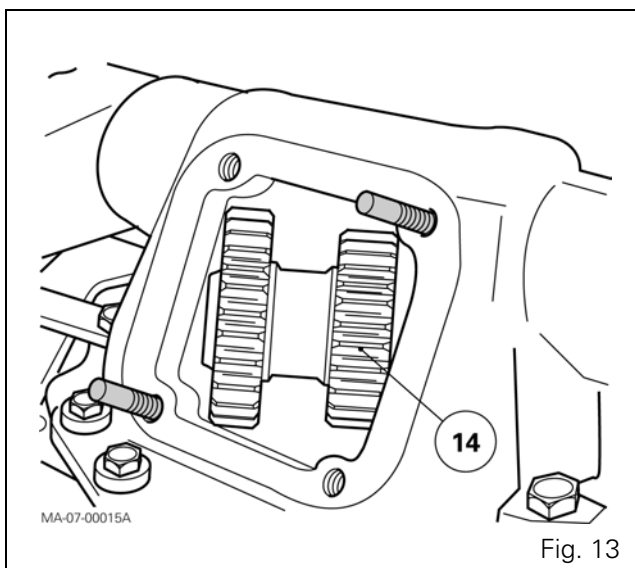

Fig. 13
63. Take out the double pinion assembly (14) (through the spool valve support aperture, only for the version without shimming) (Fig. 13).
64. Remove the needle bearings (17) (20) and the spacer (19) from the pinion (18).